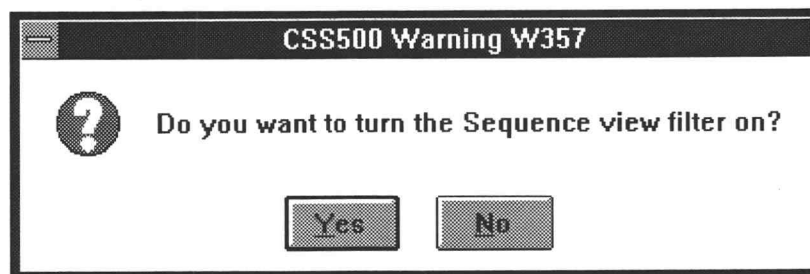

Figure 6-16. The prompt to turn on the Measurement Sequence Results filter given at the end of a Measurement Sequence.
9. Select the Meas Seq command button on the Button Bar to run the Measurement Sequence. At the end of the Measurement Sequence, a prompt box similar to Figure 6-16 is displayed